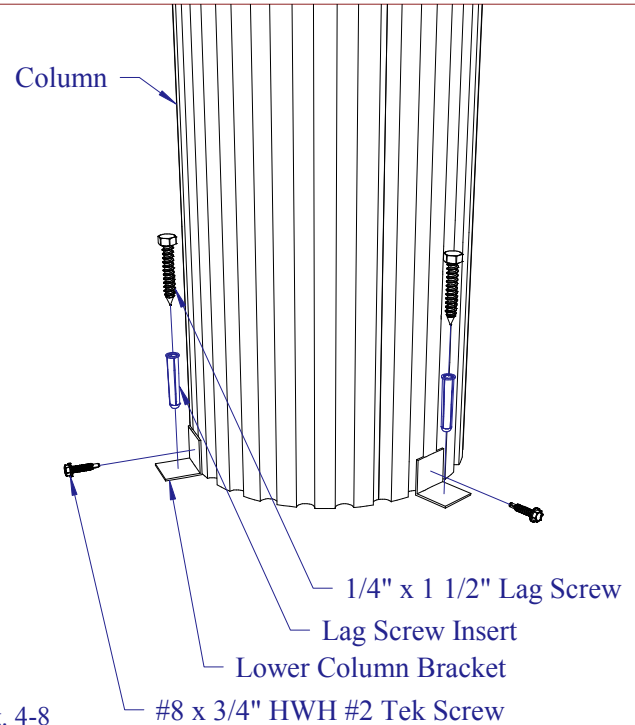

Fig. 4-8
- Anchor the bottom of the column with three lower column brackets, (3) lag screw inserts, (3) 1/4" x 1 1/2" lag screws into the surface, and (3) #8 x 3/4" HWH #2 Tek screws into the column (see Fig. 4-8).